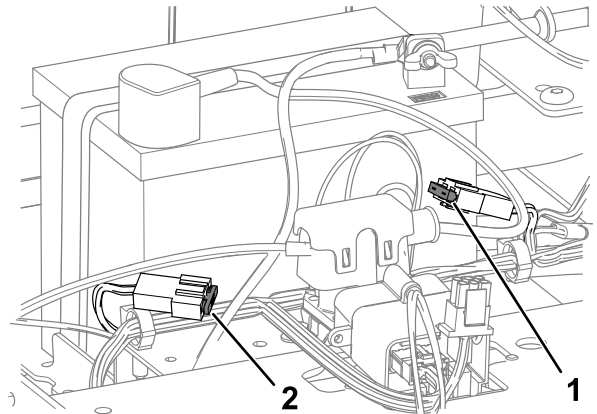

Figure 42
4. To replace a fuse, pull out the fuse to remove it (Figure 42).